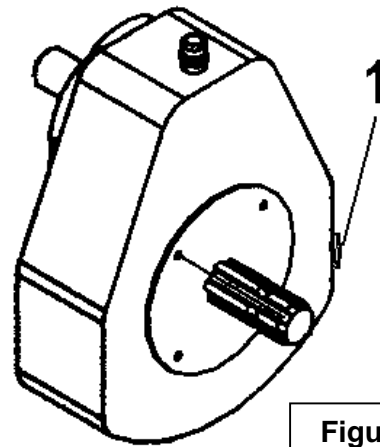

Figure 10
Check oil level by side plug (fig.10, item 1) every 40 hours of operation or monthly. Make sure oil is up to the level plug, if not add SAE 90 oil. Replace oil every 100 hours of operation or yearly.